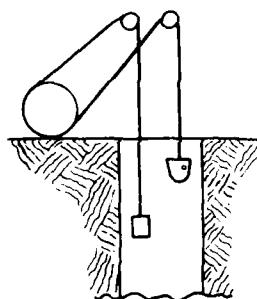

Figure 8
- two ropes with two conveyances. (See Figure 8)